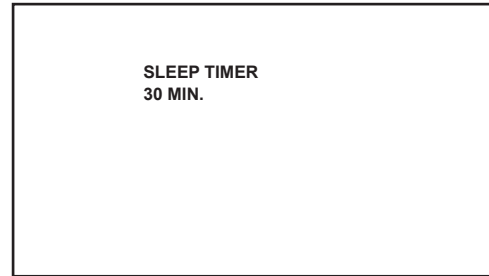

Fig.1
- (1) Set the < SLEEP TIMER 30 MIN. > with [SLEEP TIMER] key. (Fig.1)
- (2) During the < SLEEP TIMER 30 MIN. > display, press [DISPLAY] key and [VIDEO STATUS] key at the same time.